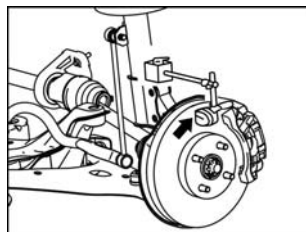

Fig. 2-57
① Mark on the brake disc and wheel hub.
② Take off the brake disc.
① Temporarily tighten the brake disc. Tightening torque: 103N·m.
② Measure the swaying of brake disc at 10mm away from the outer edge of brake disc by a dial indicator. See Fig. 2-57. Max: 0.05mm.